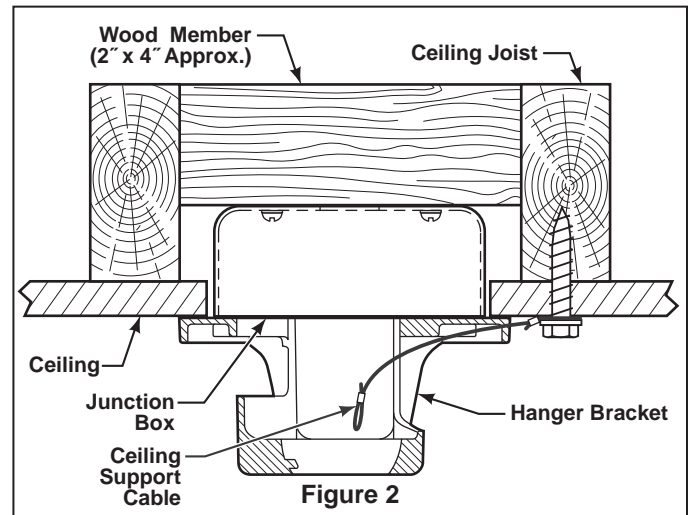

Figure 2
6. While pulling up on the hanger ball, securely tighten the two 3/16-24 x 3/8" setscrews in the downrod support. Slide the Motor Coupling Cover down. (Figures 2 & 3)
1. Using the $\frac{3}{8}$ " x 2" lag bolt and flat washer, attach safety cable to ceiling joist or wood structural member. The lag bolt will pass through the flat washer, safety cable loop, and into the building structure (Figure 2). You will first drill a $\frac{1}{4}$ " pilot hole into the building structure to prevent splitting or cracking.
NOTE: Ceiling support cable cannot be secured to junction box only, it must be directly secured to ceiling joist or structural member using the $\frac{3}{8}$ " x 2" lag bolt and flat washer. (Figure 2)
4. Tighten screws with a screwdriver provided, don't over-tighten. (Figure 2)
2. Secure glass bowl to light fitter using supplied nut. Next, install trim cover followed by the finial. Do not over tighten. (Figure 2)
2. Check the operation of the fan by gently pulling on the pull chain switch. (Figure 2)